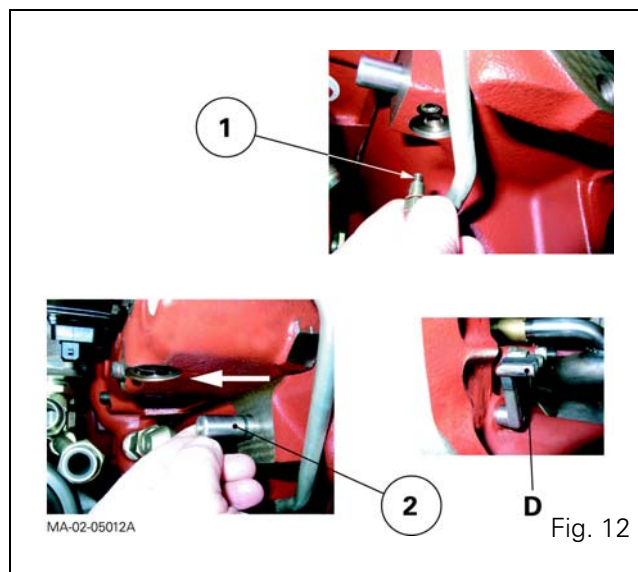
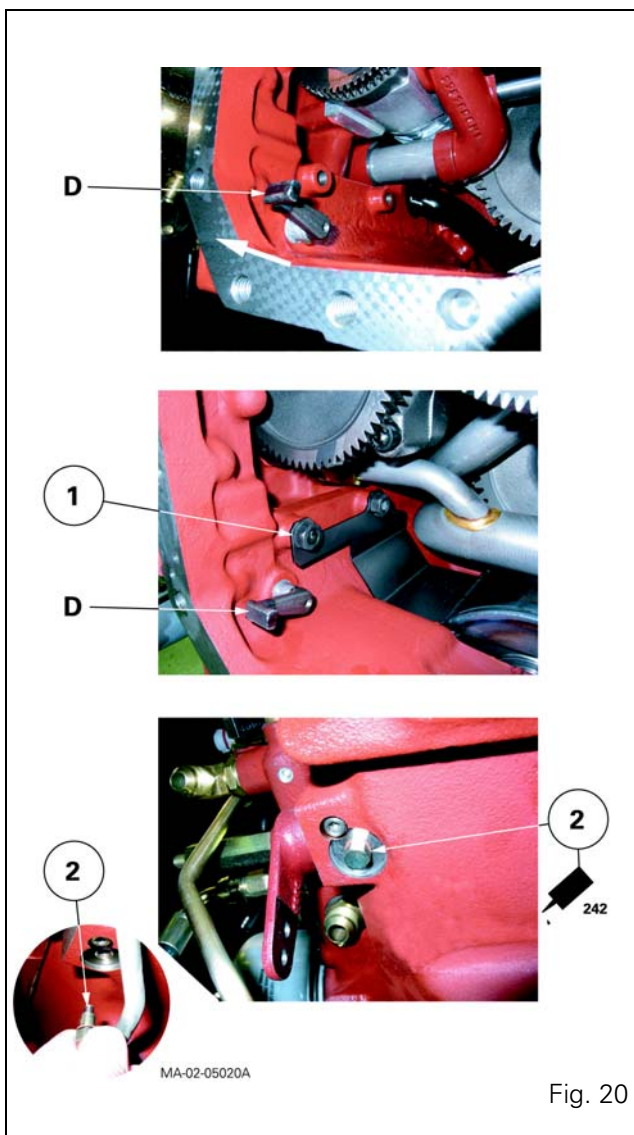

Fig. 12
Fig. 20
Special point (Fig. 12)
The rotation of the control finger "D" of the creeper gears is limited by the presence of the studs and nuts assembly (1) in the centre housing (tractors with closed centre hydraulics - Fig. 20).
78. Pull the pin (2) outwards (Fig. 12) and direct the "D" finger towards the front of the centre housing (Fig. 20).
Engage the "D" finger (Fig. 20) in the creeper gear fork and position the seal on the screw (2) (Fig. 20) after lightly smearing it with Loctite 242 or equivalent. Moderately tighten the screw.